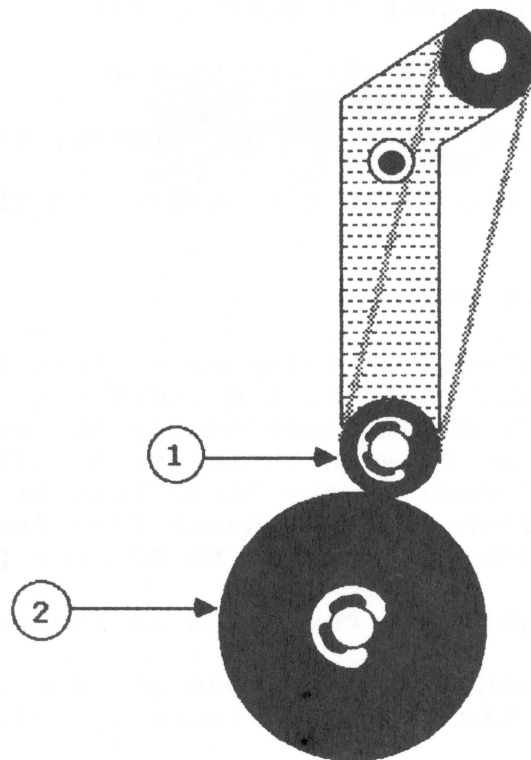

FIGURE 5
4. Remove the E-ring from the lower timing belt gear (Figure 5, #1). Remove the gear and put one drop of Tellus oil on the metal shaft.
5. Remove the E-ring from the idler gear (Figure 5, #2). Remove the gear and put one drop of oil on the shaft.